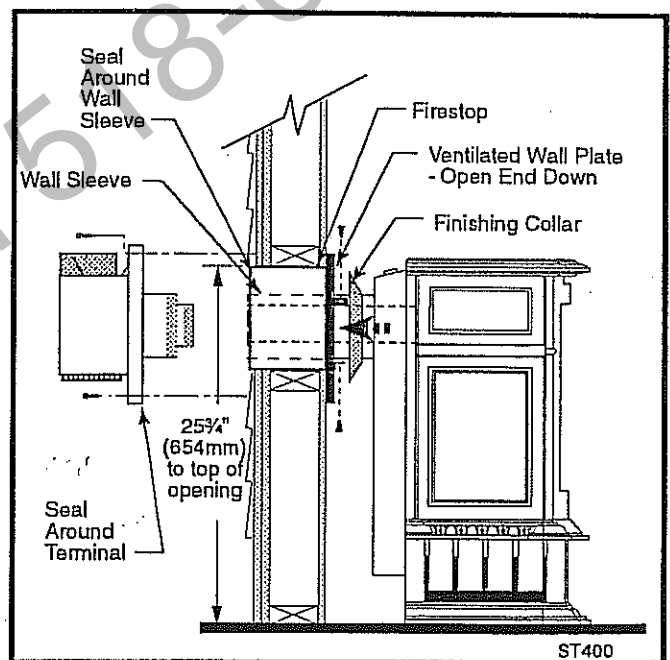

Fig. 48 Rear Vent Kit 7TFMSK installation.
NOTE: The opening height for a Rear Vent Termination through a combustible wall will be 25 $\frac{3}{4}$ " (654 mm) from the floor. (Fig. 48)
2. Measure the wall thickness and cut the Wall Sleeve halves to proper length, (MAXIMUM 12"). Assemble the sleeve with the #8 sheet metal screws supplied. Attach the Firestop plate to the sleeve end with the holes. (Fig. 48) **NOTE: The Wall Sleeve is required in combustible walls only.**
4. If necessary, measure to determine the length of pipe required from the Starter pipe to the exterior wall surface, including a 2" overlap at the joint. (Fig. 48) Use a hacksaw to trim the pipe as necessary. The maximum length of this section is 20" (508 mm).